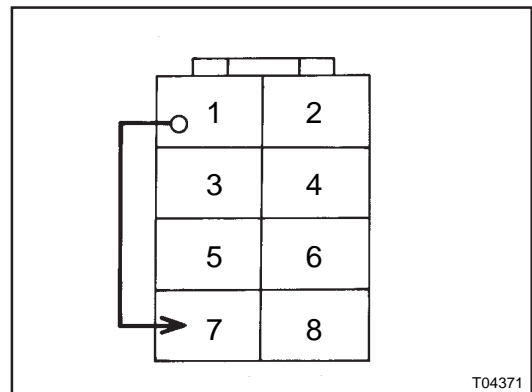

Figure 2: Terminal of switch S112
2. Looking at the open end of the connector, remove the terminal of the yellow and blue wire from slot No.1 (see figure 2) and insert it in slot No.7.